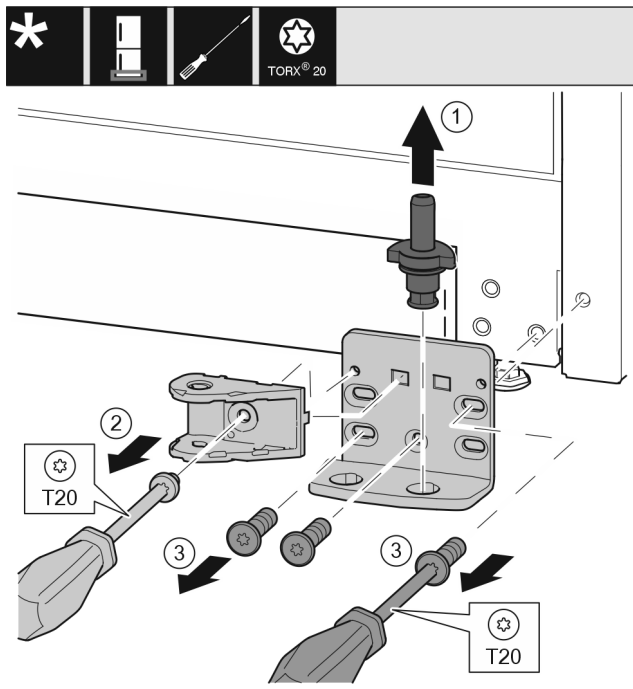

Fig. 37
- ▶ Completely pull out the bearing pin Fig. 37 (1) upward.
- ▶ Use a screwdriver to unscrew the screw Fig. 37 (2) and remove the closing damper connection.
- ▶ Use a screwdriver to unscrew the screws Fig. 37 (3) and remove the swap bearing block.